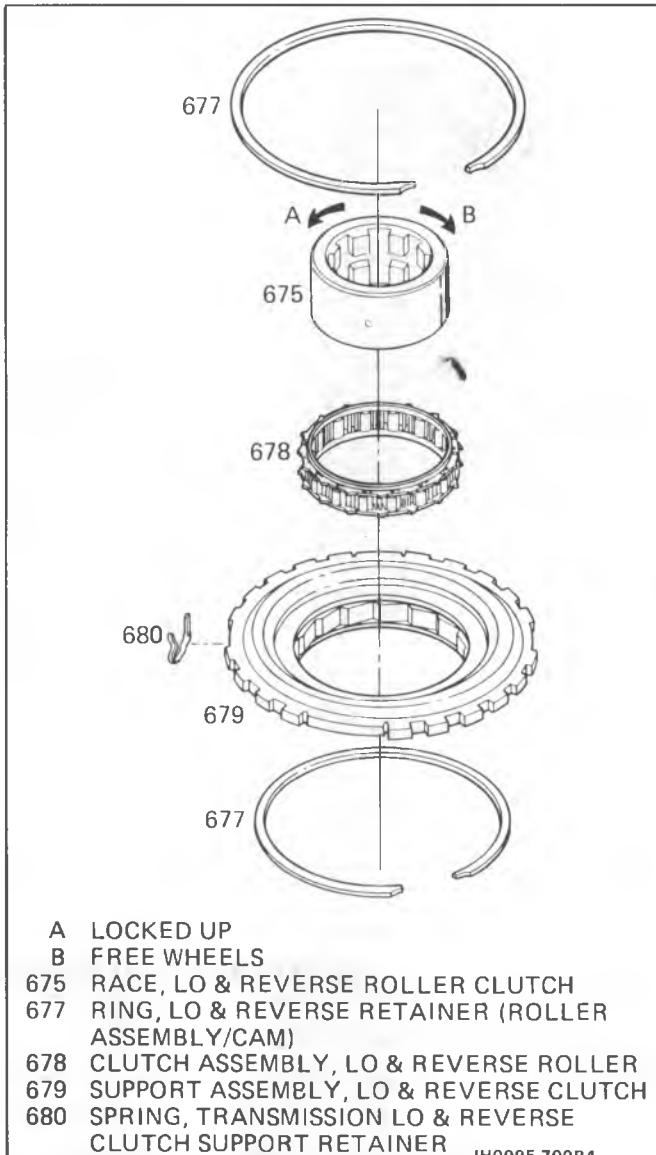

Figure 45 Lo and Reverse Clutch Support Assembly
➡➡ **Remove or Disconnect (Figure 45)**
**Inspect (Figure 45)**
- Inner race (675) for damage and surface finish
- Roller clutch assembly (678) for
**Install or Connect (Figure 45 and 46)**
1. Roller clutch assembly (678) into the cam and support assembly (679)
3. Inner race (675) into the roller assembly
4. Turn inner race (675) while inserting
- check for proper operation by rotating the inner race as shown in Figure 45.
5. Support retainer spring (680) into the case